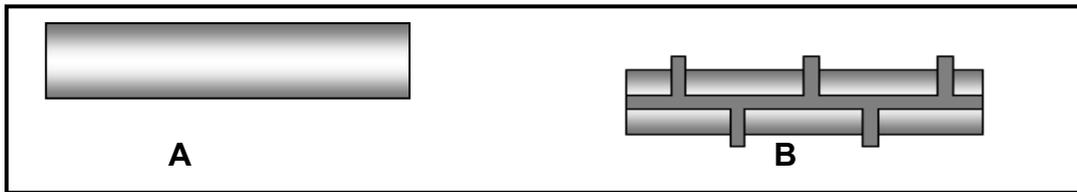

FIGURE 2.4
2.4 Identify the type of steel in FIGURE 2.4 that is used for reinforcing.